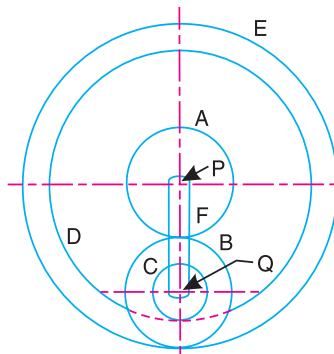

Fig. 13.40
11. A compound epicyclic gear is shown diagrammatically in Fig. 13.40. The gears  $A$ ,  $D$  and  $E$  are free to rotate on the axis  $P$ . The compound gear  $B$  and  $C$  rotate together on the axis  $Q$  at the end of arm  $F$ . All the gears have equal pitch. The number of external teeth on the gears  $A$ ,  $B$  and  $C$  are 18, 45 and 21 respectively. The gears  $D$  and  $E$  are annular gears. The gear  $A$  rotates at 100 r.p.m. in the anticlockwise direction and the gear  $D$  rotates at 450 r.p.m. clockwise. Find the speed and direction of the arm and the gear  $E$ .